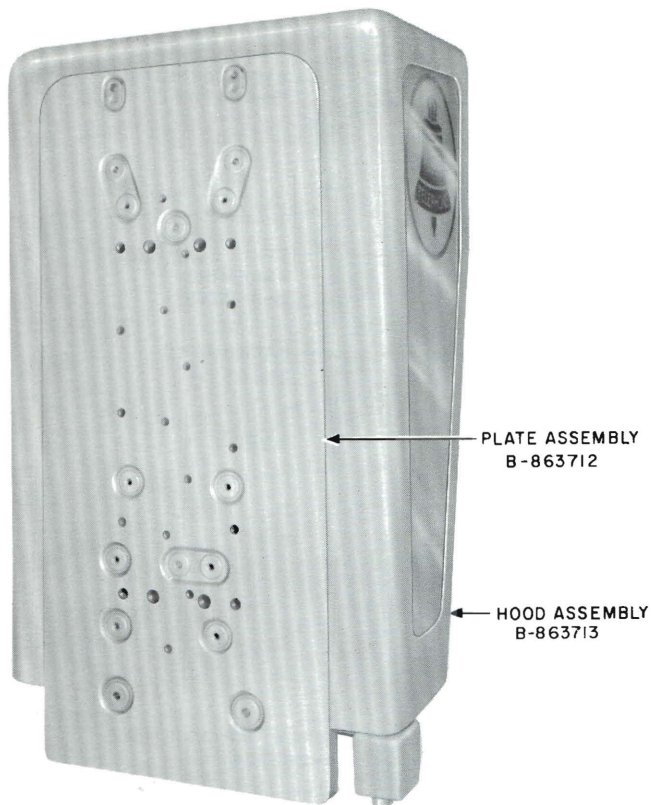

Fig. 6 — Rear View, without Mounting Post
3.04 The mounting may be installed on a wall or similar surface. If the mounting is fastened to a steel post, special clamps are available (Fig. 6, 7, and 8).